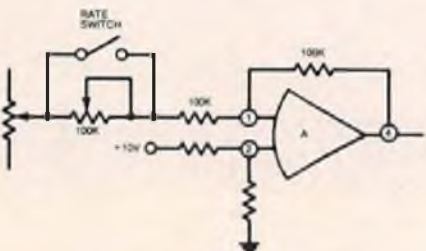

FIGURE 4
If pin (2) is at 5V, then pin (1) will drive to 5V. If the pot wiper is at 5V, then no current will flow in the 200K input resistor. Therefore, no current can be flowing in the 100K feedback resistor so the output must also be at 5 volts. Some of you may be getting ahead of me and recognizing the possibilities. If we split the 200K into two resistors, one of which is a pot, and put a switch across the pot, we have our dual rate capability. This is shown in Figure 4.